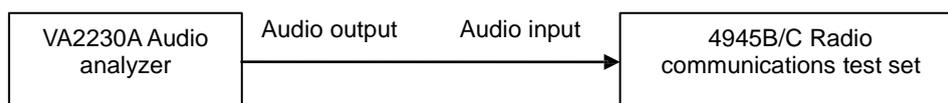

Fig. 6-14 Block diagram for audio signal analysis characteristics test
1) As shown in Fig. 6-14, connect the test instrument and set the output frequency of the audio analyzer to 1 kHz, and the amplitude to +14 dBV (600 Ω internal resistance, equal to high impedance of 10Vrms); set 4945B/C to the audio analysis mode, with the audio filter of 20 kHz LPF, high impedance input, and level test range of 30V~5V, and record the measured level values in corresponding spaces of Table A.1;
1) As shown in Fig. 6-14, connect the test instrument and set the output frequency of the audio analyzer to 20 kHz, and the amplitude to -40 dBV (equal to 20 mVrms); set 4945B/C to the audio analysis mode, with the audio filter of LPF 20 kHz, high impedance input, and level test range of below 50 mV, and record the measured frequency values in corresponding spaces of Table A.1;
- 1) As shown in Fig. 6-14, connect the test instrument and set the output frequency of the audio analyzer to 20Hz, and the amplitude to +14 dBV (equal to high impedance of 10Vrms); set 4945B/C to the audio analysis mode, with the audio filter of 300Hz LPF, high impedance input and level range of 30V~5V, and record the measured level values in corresponding spaces of Table A.1;